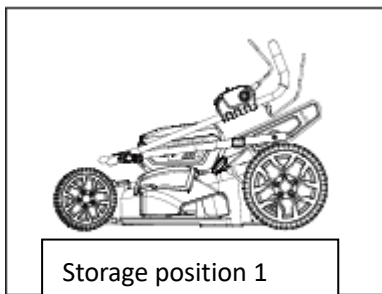

Fig. 19
- First fold down the upper handle and then fold the lower handle completely (see Figs. 19 and 20).